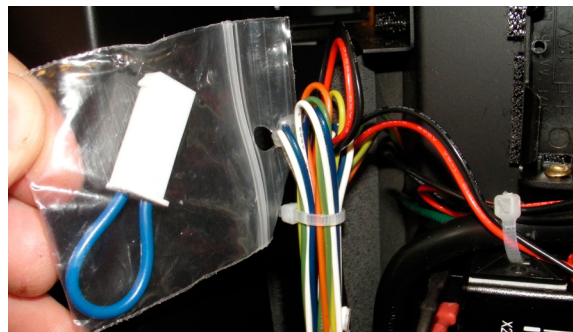

Figure 20.
2). Remove the bag containing the Jumper Cable from the wiring harness connected to the controller as shown in Figure 20.